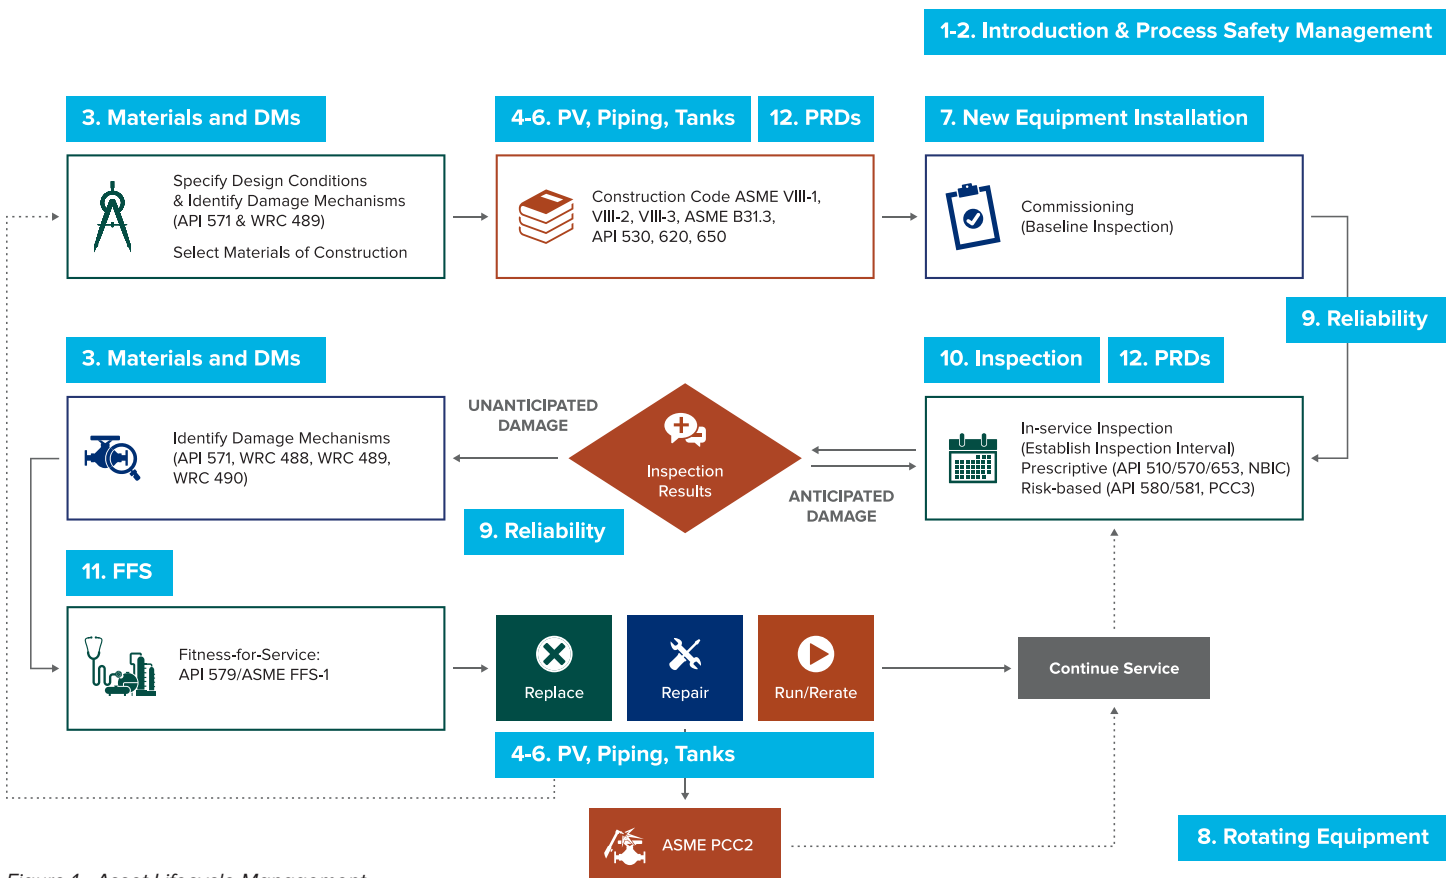

Figure 1 - Asset Lifecycle Management
This course begins with describing the process of lifecycle management (LCM) of fixed equipment, illustrated in Figure 1, and the importance of technical knowledge of owner/users to maximize safety and mechanical integrity (MI). Building on these